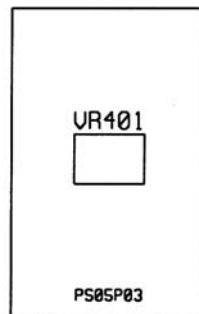

Fig. 7-3 Adjustment Location
- K. Adjust trimmer VR401 to set the OVP value (see Fig. 7-3).